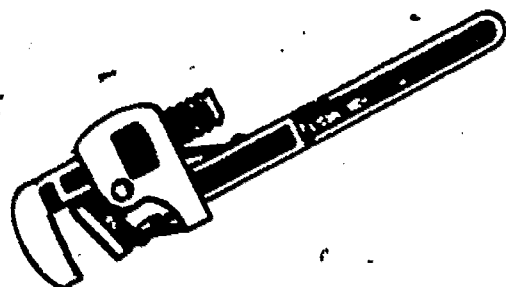

Figure 22. Pipe Wrench
**Pipe.** Pipe wrenches are used for turning pipe, round rods, or smooth fittings which do not offer a gripping surface for other types of wrenches (see figure 22). However, since the jaws have teeth which can damage the work, the adjustable strap wrench should be used if mars are objectionable.